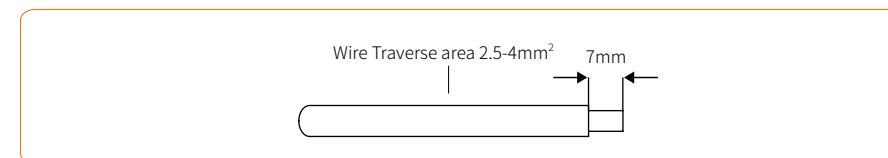

Figure 4-10
- ② Peel off the DC cable insulation sleeve for 7 mm, as shown in Figure 4-10: